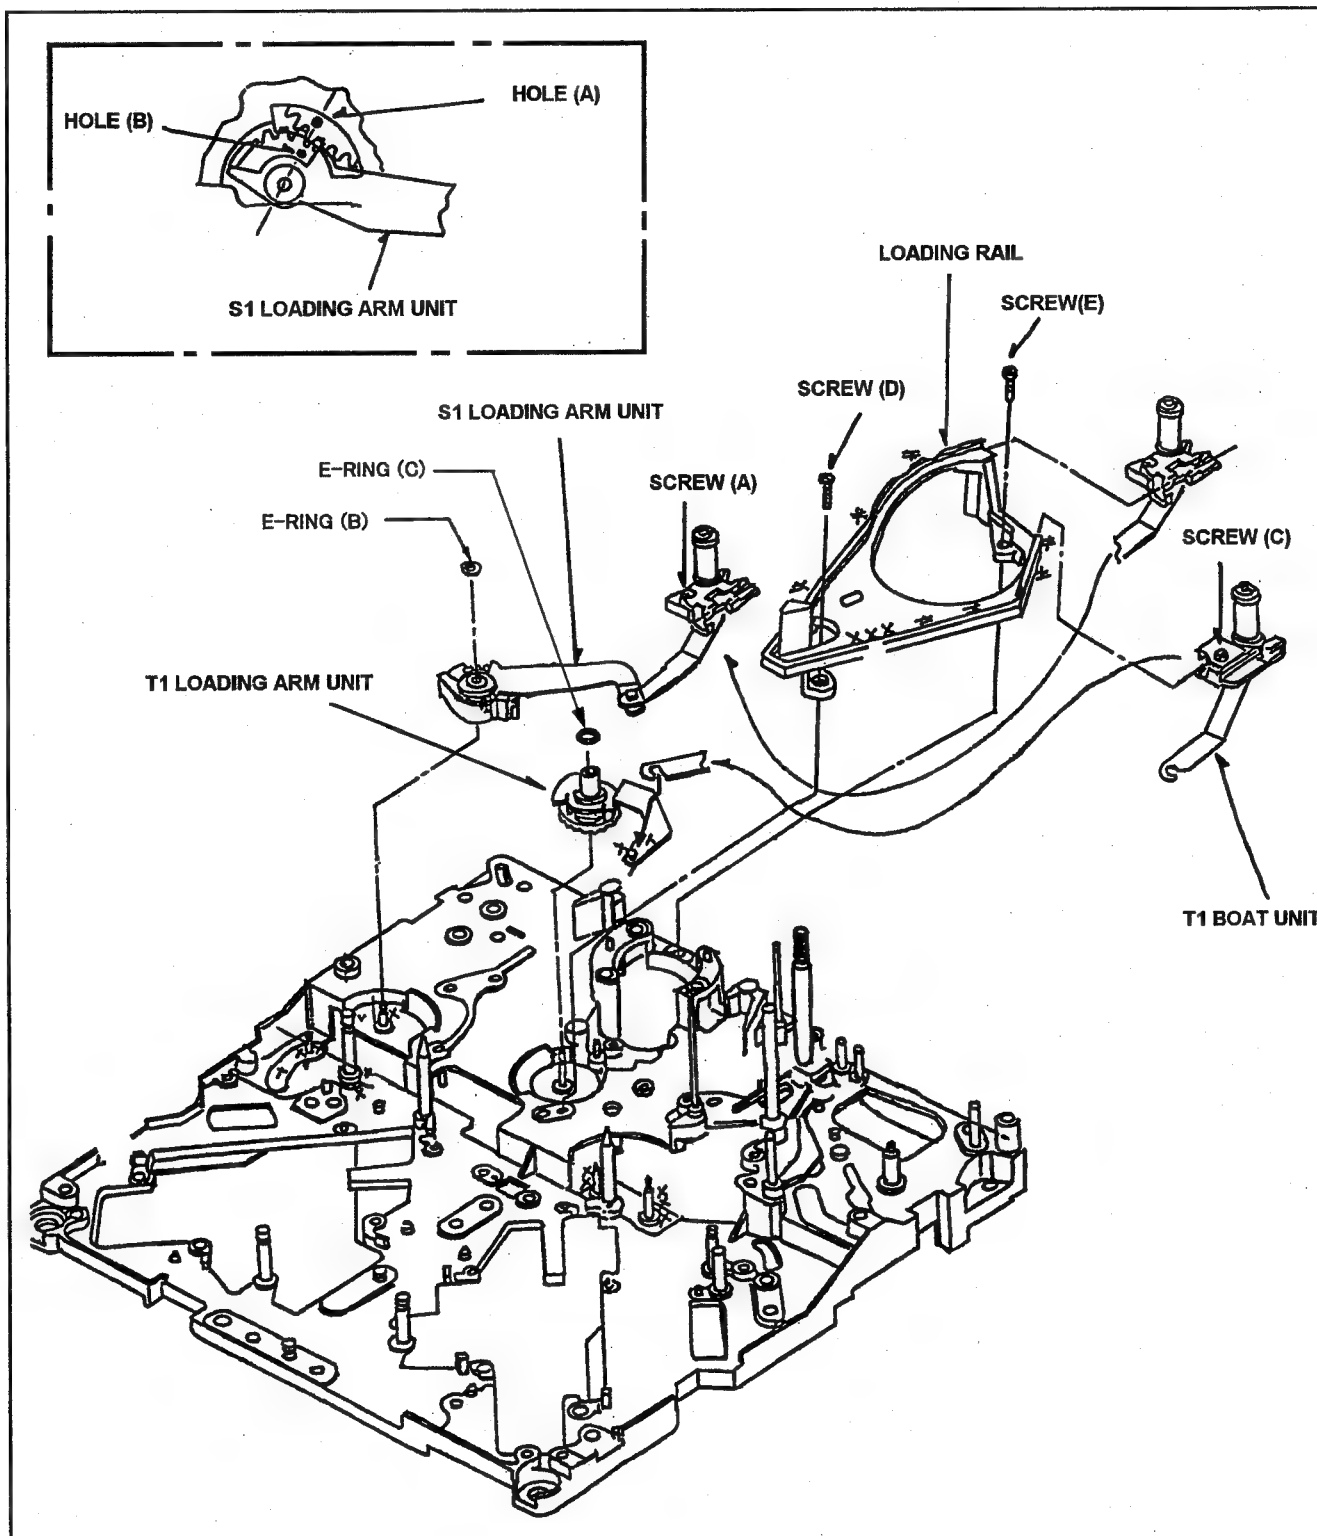

Fig. 6-12-1 Removal of S1 Post Loading Arm Unit
3. Remove the S5 Post Base Unit (Refer to item 6-17).
4. Remove the Tension Arm Unit (Refer to item 6-18).
5. Unscrew the screw (A) and remove the S1 Post from Loading Rail as shown in Fig. 6-12-1.
6. Remove the E-Ring (B) and remove the S1 Loading Arm Unit as shown in Fig. 6-12-1.
When install the S1 Post Loading Arm Unit, the hole (A) should be matched with the hole (B) as shown in Fig. 6-12-1.
2. After installation, confirm that the S1 Post moves smoothly on the Loading Rail. And Tension Arm Adjustment (Refer to item 5-7), Post Height Pre-Adjustment (Refer to item 5-5) and Linearity Adjustment (Refer to item 5-18 [Tape Pass Adjustment Procedure]) should be performed.
3. Unscrew the screw (C) and remove the T1 Post from the Loading Rail as shown in Fig. 6-12-1.
4. Hang off the T1 Boat Unit from the T1 Loading Arm Unit as shown in Fig. 6-12-1.
3. Remove the Cylinder Unit (Refer to item 6-1).
4. Move the T1 Post to loading direction by manual ejecting method until the position where the screw (D) can be removed as shown in Fig. 6-12-1.
5. Unscrew the 2 screws (A) and (C), then remove the S1 and T1 Post from the Loading Rail as shown in Fig. 6-12-1.
6. Unscrew the 2 screws (D) and (E), then remove the Loading Rail as shown in Fig. 6-12-1.
7. Remove the E-Ring (C) and remove the T1 Loading Arm Unit as shown in Fig. 6-12-1.